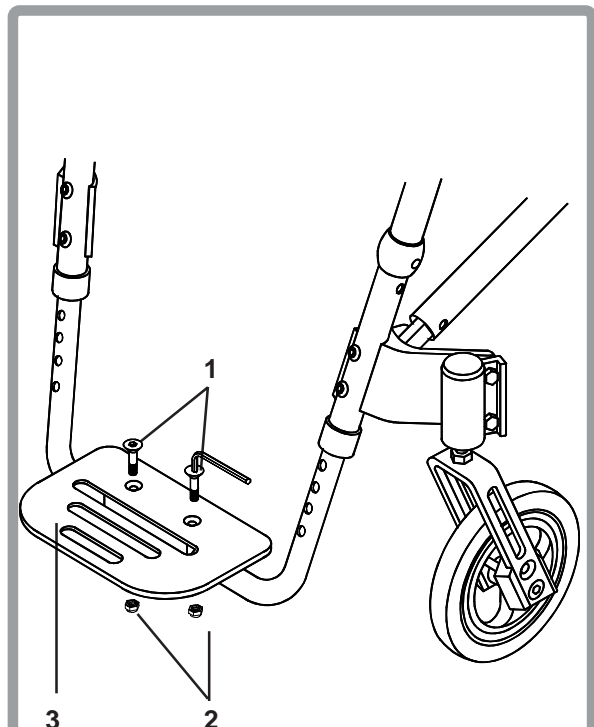

Fig. 26
To adjust the footplate position (Fig. 26) remove the two footplate screws (1) and nuts (2). Turn the footplate (3) through 180° replace both screws and nuts and tighten to 7-12Nm torque using a 4mm Allen key.